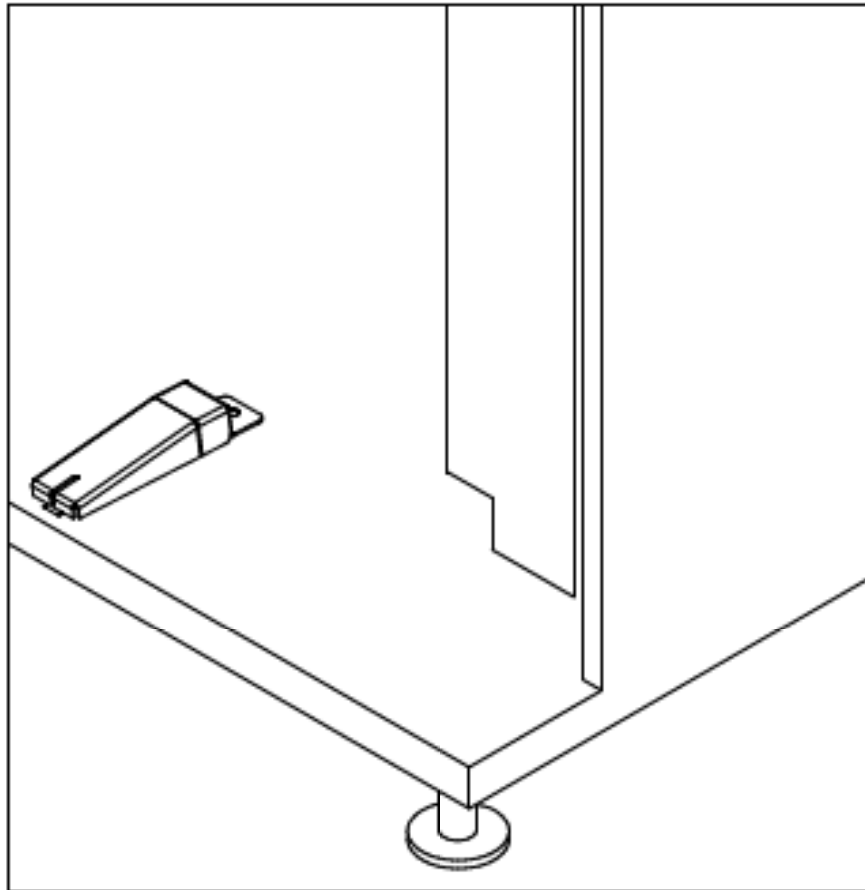

FIGURE 2
**H. Door Support (Figure 2)**